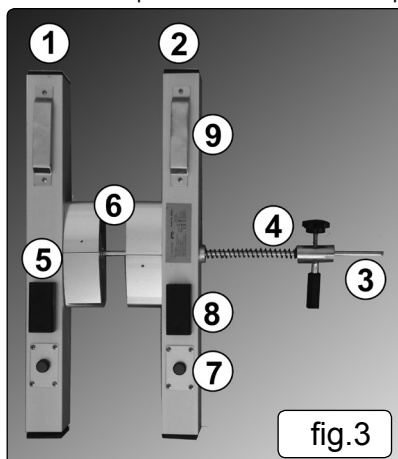

fig.3
- 4.6. **Attaching the laser units to the rear wheel:** Referring to fig.3, loosen the clamp and remove the clamp unit and spring from the rod together with the right hand laser unit. Position the left hand laser unit with the rod attached on the nearside of the rear wheel and insert the rod through the adaptor and then through the lower part of the wheel. Slide the right hand adaptor and laser unit onto the rod and up to the tyre, followed by the spring and clamp unit. Clamp the two units tightly to the wheel using the adaptors on the wheel rim to space the laser unit away from the tyre in the position indicated in fig.4.